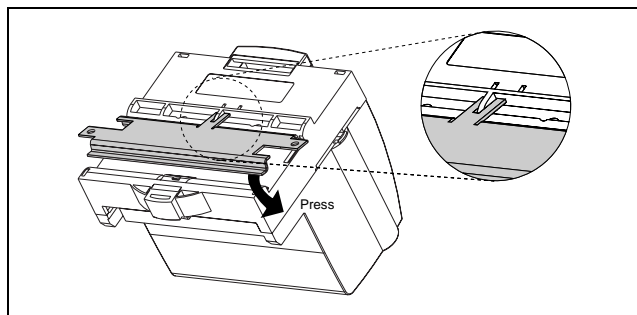

Figure 3. Mounting the FP-1600 onto a Panel Mount Accessory
- a. Snap the panel mount accessory onto the module, as shown in Figure 3.